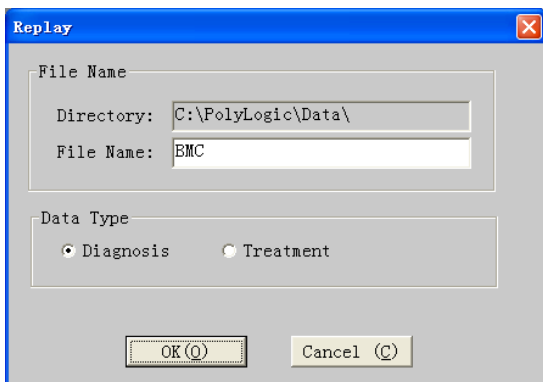

Figure 2-5 "Replay" dialog box
- ⑥ Recording start time is set by the system at the beginning of the recording time which is confirmed by the internal clock. If YH-600B Pro clock is not correct, modify it in the above login screen. The recording end time defaults to 12 hours after the recording starts. In fact, in the process of data transmission, the system can automatically identify the actual end time of record. YH-600B Pro will automatically stop after data transmission is finished. So there is no need to change the recording end time in normal situations.
- ⑦ Enter patient information one by one. Click "OK" button and "Replay" dialog box pops up (Figure 2-5).